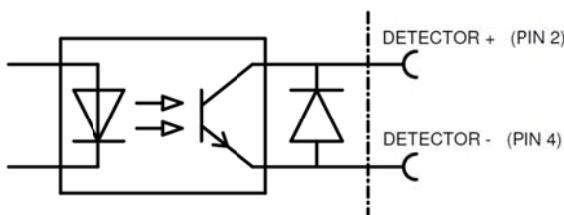

Figure 4, Perfomaster connections
- Connect the power cable as shown in figure 4